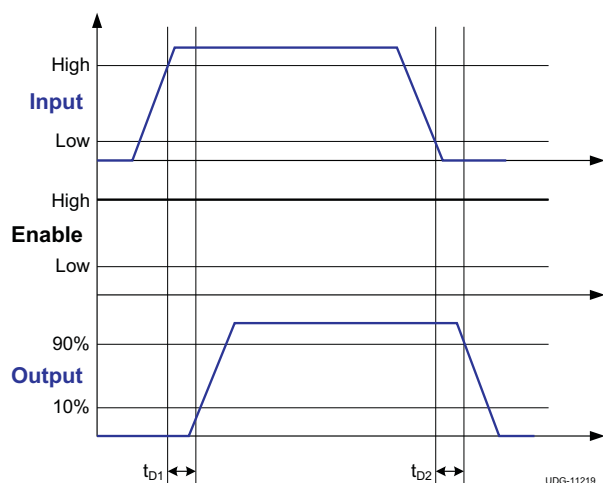
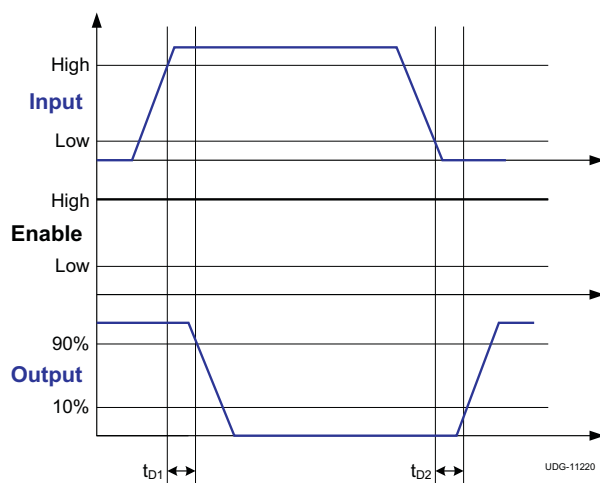

Figure 3. Non-Inverting Input Driver Operation
Figure 4. Inverting Input Driver Operation
(3) See timing diagrams in Figure 1, Figure 2, Figure 3 and Figure 4